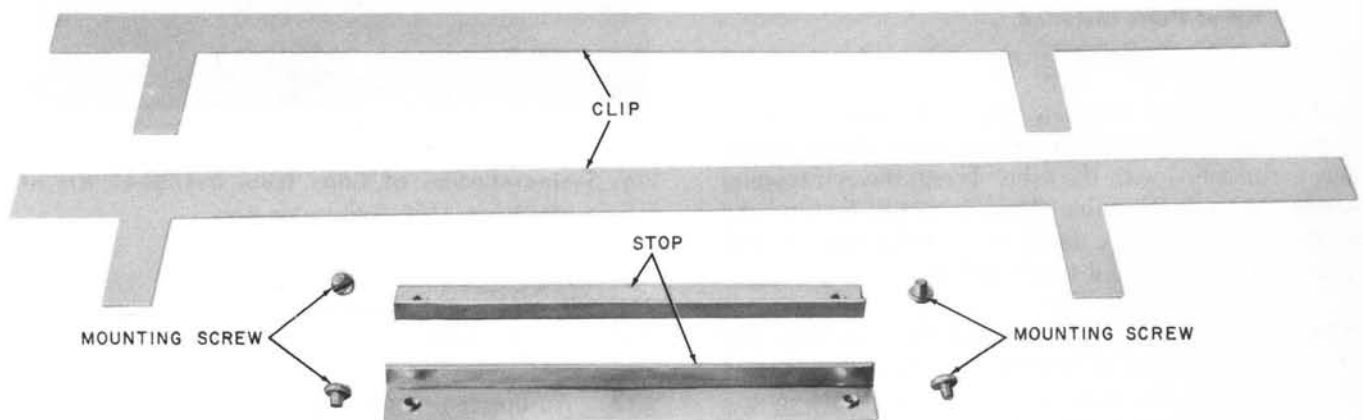

Fig. 3—D-179941 Kit of Parts
2.04 The 113B (MD), 113E, or 114A apparatus box may be installed in existing walls by using a D-179941 Kit of Parts (Fig. 3) for securing the apparatus box. Install apparatus box and kit of parts as follows: